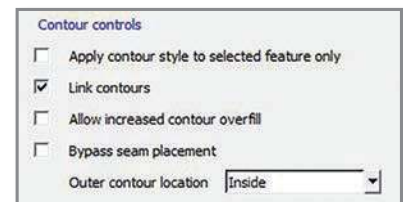

Figure 10: The option to Link contours is found in the Contour controls.
STEP 9: (*Optional*) Under the *Contour controls*, select the checkbox for *Link contours* (Figure 10).